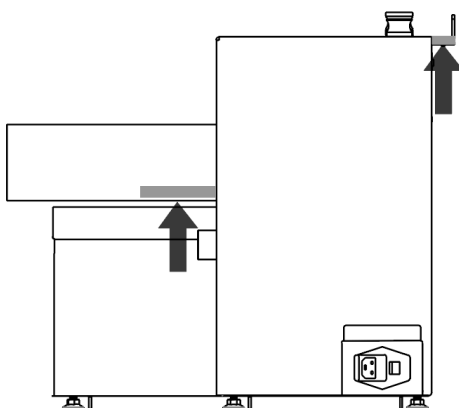

Figure 4 Docker Lift Points
**WARNING:** HEAVY EQUIPMENT – ALWAYS have more than one person unpack and move this equipment from the shipping pallet using the lift points (Figure 4). See the Specifications section for docker weight. Failure to comply may result in personal injury.